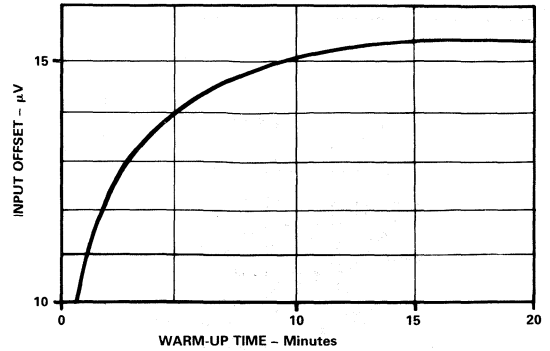

Figure 11. Offset Voltage RTI, Turn-On Drift
**Turn-On Drift:** The 1B32 offset voltage typically stabilizes to within 1 $\mu$ V of its final value in 10 minutes (Figure 11). The test conditions are: 350 $\Omega$  bridge with a +10V excitation and ambient temperature of +25 $^{\circ}$ C.